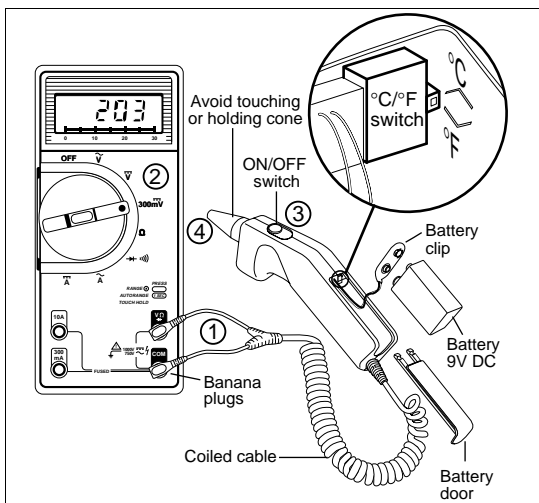

Figure 1.
- The temperature scale can be changed to °C or °F by removing the battery from the battery compartment and moving the internal °C/°F switch to the desired position. (see Figure 1).
Remove battery door (See Figure 1.) and replace with a 9V Alkaline battery (ANSI/NEDA 1604A, IEC 6LR61).